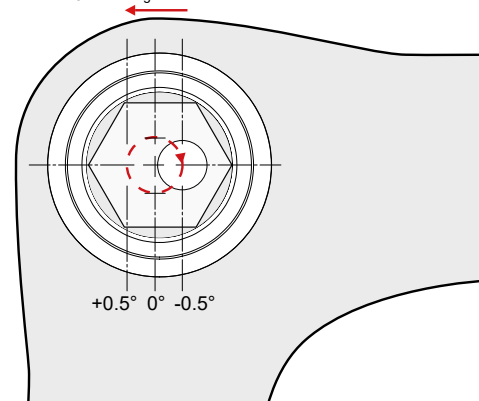

Figure 3
7. For maximum camber, rotate the sleeve with the supplied spanner so that the bore is positioned as shown in Fig 3.